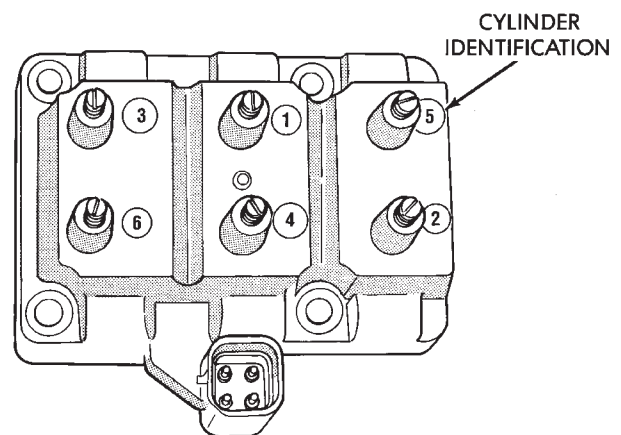

Fig. 32 Cylinder Identification
- (1) Disconnect electrical connector from coil pack.
- (2) Remove coil pack mounting screws.
- (3) Remove coil. The spark plug cables are numbered for cylinder identification.
- (4) Transfer spark plug cables to new coil pack. The coil pack towers are numbered with the cylinder identification (Fig. 32).
- (5) Transfer spark plug cables to new coil pack. The coil pack towers are numbered with the cylinder identification (Fig. 32).